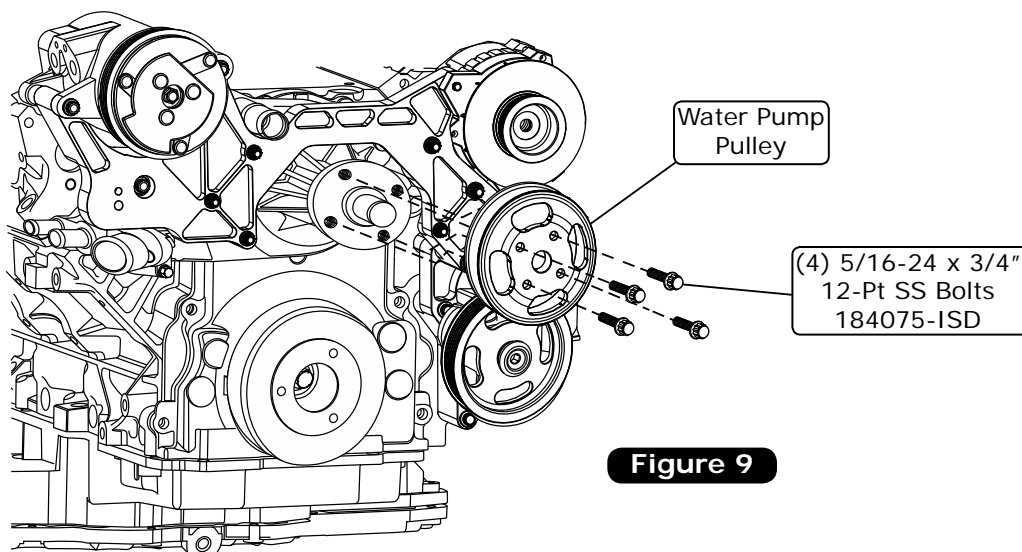

Figure 9
1. Install the water pump pulley onto the water pump using (4) 5/16-24 x 3/4" bolts as shown in Figure 9, below.